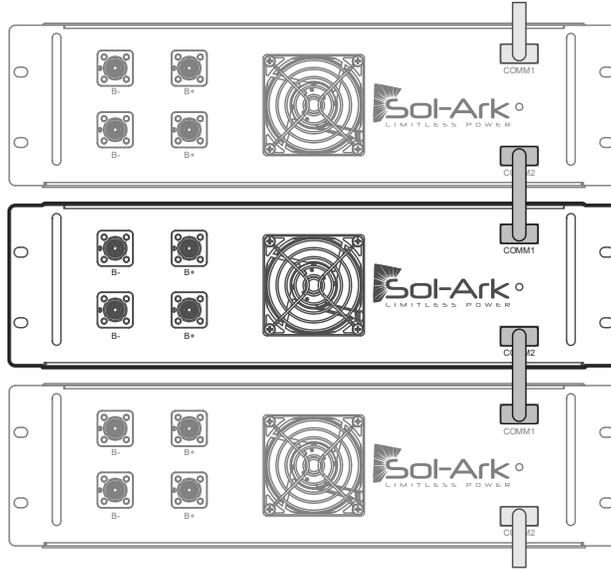

Figure 6 Inter-Module Communication Wiring
- D. Connect all remaining 110mm (4.3in) communication cables for the rest of the battery modules following as shown in Figure 6.
- A. Begin wiring of the battery by first removing the inner and outer cover, as shown in the **Figure 6**, using a Phillips screwdriver.